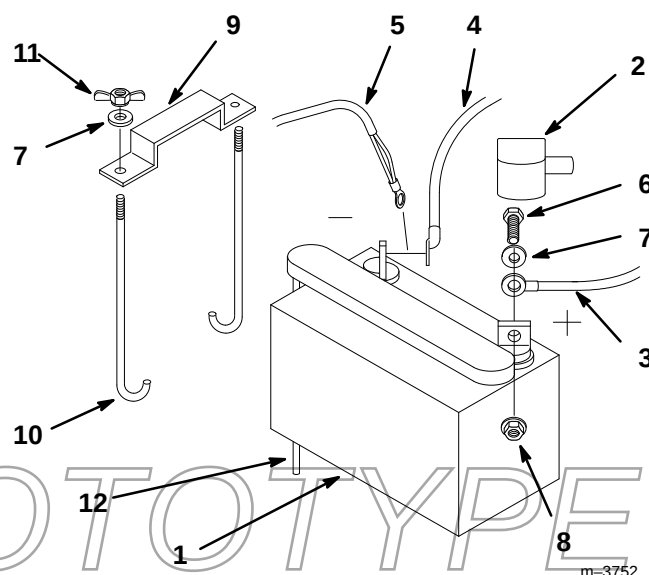

Figure 7
- Position battery in tray with terminal posts toward the left hand side of mower (Fig. 7).
- Secure cables with (2) 1/4 x 3/4" (19 mm) bolts 1/4" washers and 1/4" locknuts (Fig. 7).
- Secure battery with J-bolts, hold down clamp and (2) 1/4" washers and (2) 1/4" wing nuts (Fig. 7).